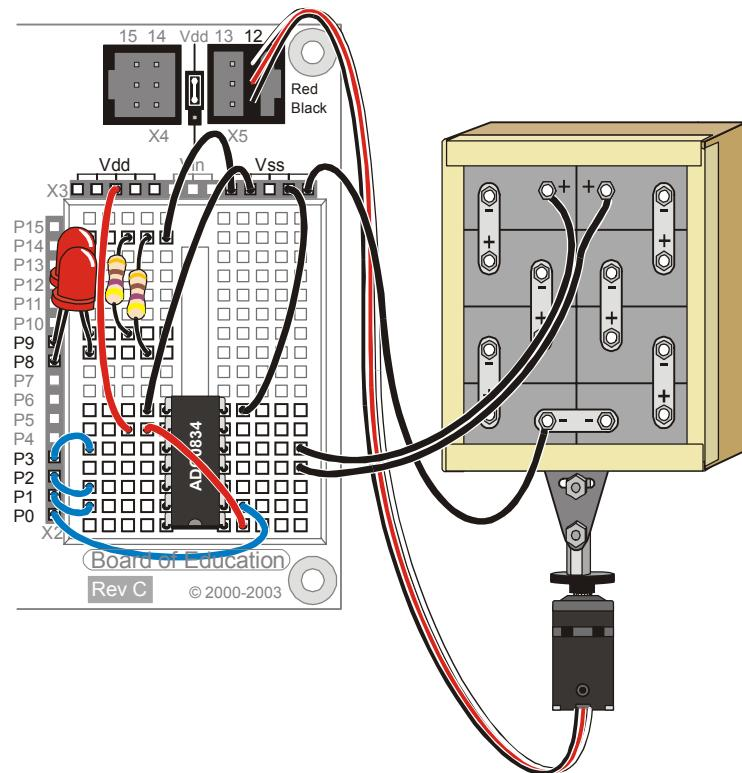

Figure 4-16: Sun Tracker Wiring Diagram for Board of Education Rev C
- ✓ For a Board of Education Rev C, refer to the wiring diagram in Figure 4-16 to make sure the servo leads are lined up with the labels by the P12 servo port, and that your jumper is set to Vdd.